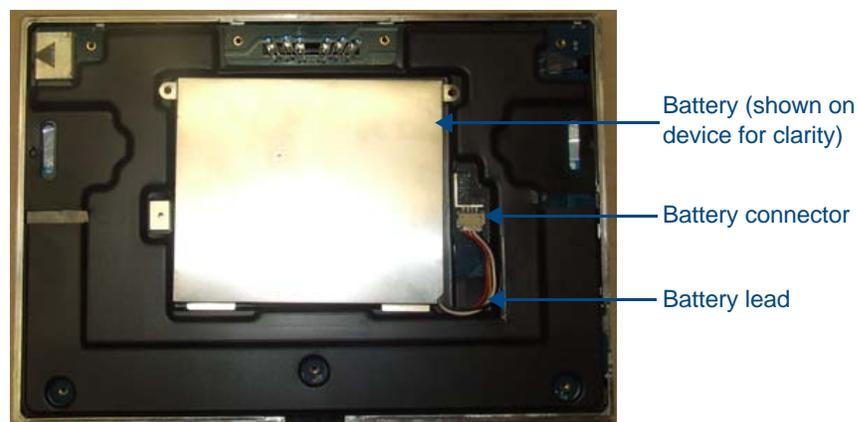

FIG. 116 Interior of MVP-9000i, including female battery connector
- Carefully remove the back of the device and detach the battery lead at the battery connector (FIG. 116). This will allow the back cover to be detached from the device.
2. Make sure to seat fully the battery plug to the connector in the device (FIG. 116). If fingers cannot be used, use a clean, nonconductive stick or probe to seat the connectors.